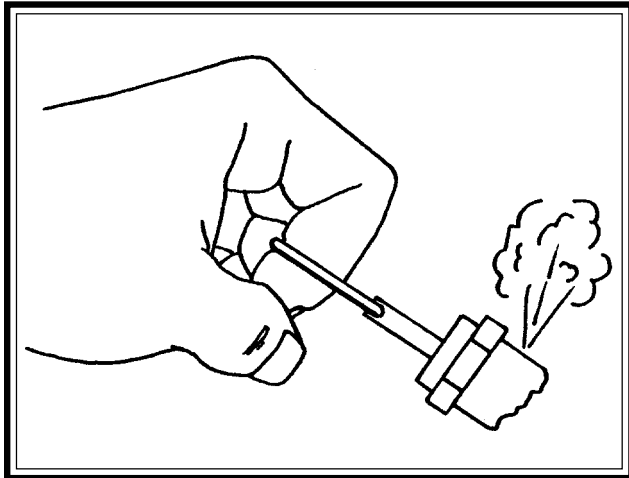

Fig. 3-10 Checking Pressure Relief Valves Pix 1160
Step 2) Tanks subjected to freezing temperatures may contain ice. Store the compressor in a heated area before attempting to drain moisture from the tanks. Reduce the air pressure in the tank to 30 PSIG by pulling the pressure relief valve ring (refer to **Fig. 3-10, Checking Pressure Relief Valves & Relieving System Pressure**).